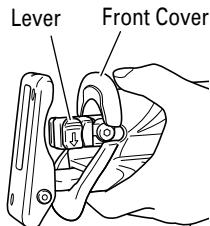

Fig. 2
(1) Turn on and off the switching trigger several times so that the lever can jump out of the front cover completely. Thereafter, turn off the switch and unplug the power cord. (Fig. 2)
- (1) Turn on and off the switching trigger several times so that the lever can jump out of the front cover completely (Fig. 2). Thereafter, turn off the switch and unplug the power cord.
- Do not remove the front cover (refer to Fig. 2). Be sure to hold the body from the top of the front cover.